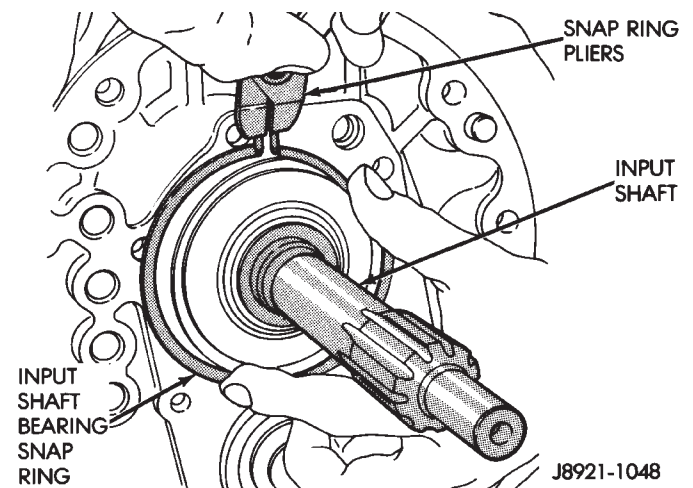

Fig. 18 Removing Input Shaft Bearing Snap Ring
(3) Remove input shaft bearing snap ring (Fig. 18).